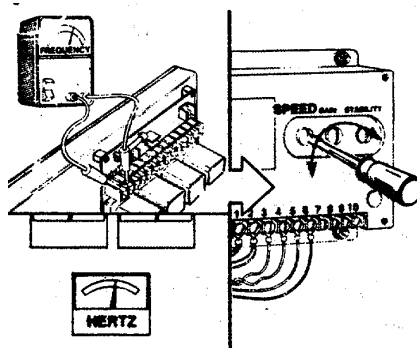

FIGURE 3-19. Frequency Adjustment (Speed).
- (6) Frequency adjustment (speed) (FIGURE 3-19). Adjust to the desired frequency (50 or 60 Hz) by adjusting the speed potentiometer (pot) (clockwise to increase)-